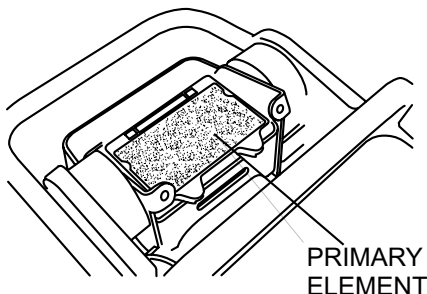

Figure 13. Air Cleaner Primary Element
- Remove the air cleaner cover. Loosen and remove the 2 screws that hold the cover to the air cleaner assembly. If the primary element (Figure 13) is dirty, wash it with gasoline or kerosene. Then dip it in engine oil (SAE10W-30) and wring the element so that 25 to 30 cc of engine oil remains on the element.